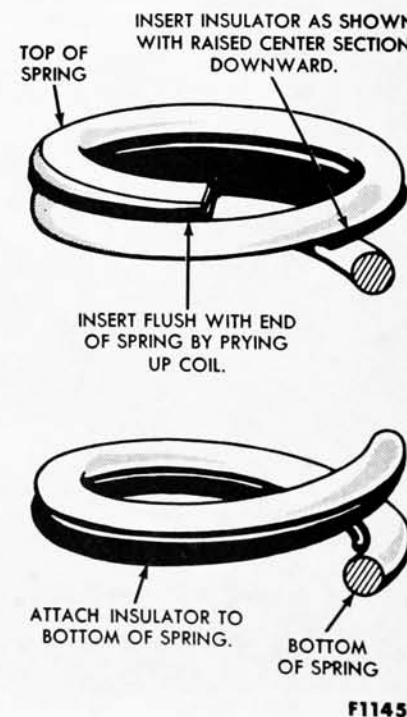

FIG. 8—Front Spring Insulator Installation
2. Insert one helix-type insulator between the two top coils of the spring and attach the other to the bottom coil (Fig. 8). Secure both